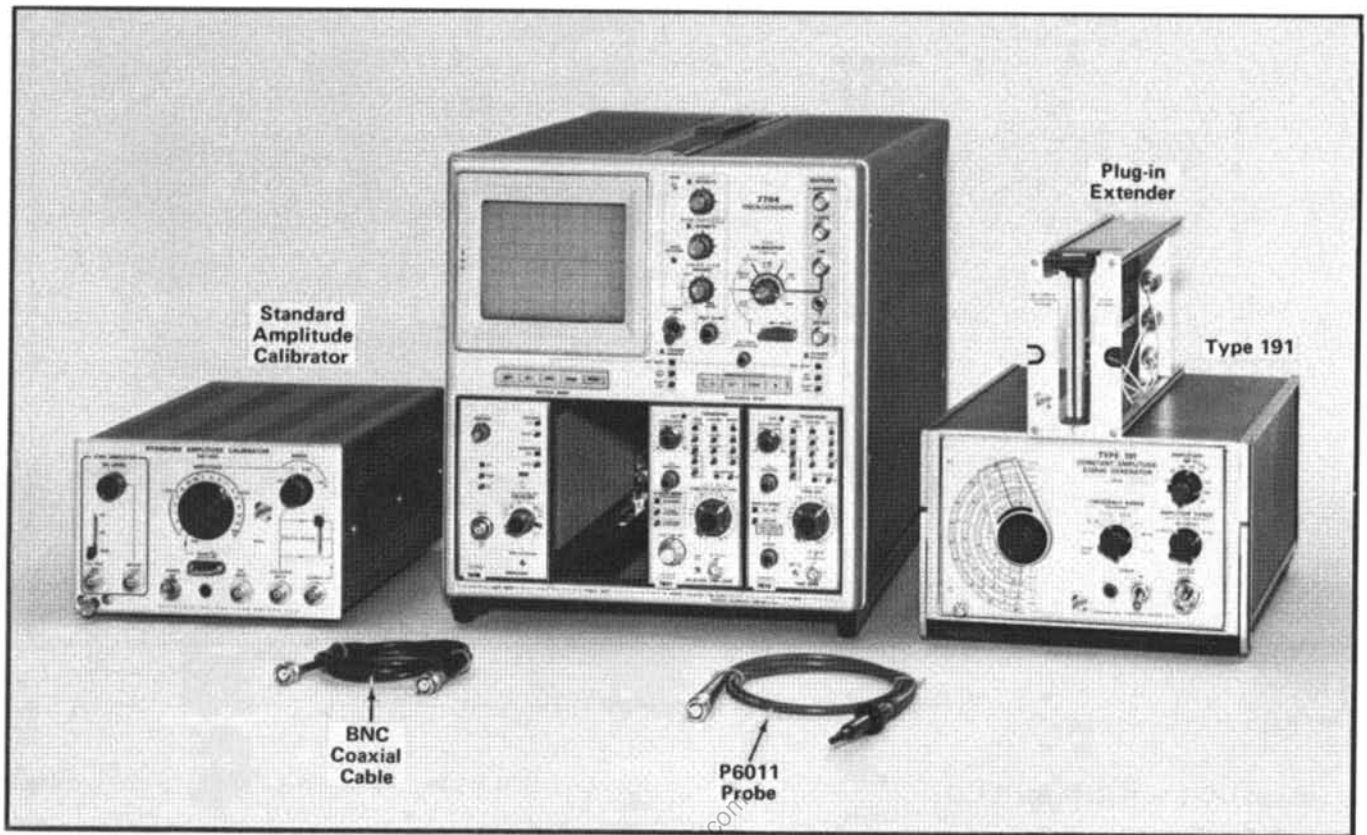

Fig. 5-1. Test equipment required for steps 1 through 11.
a. Test equipment required is shown in Fig. 5-1.